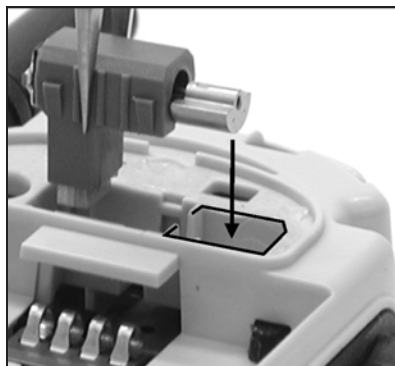
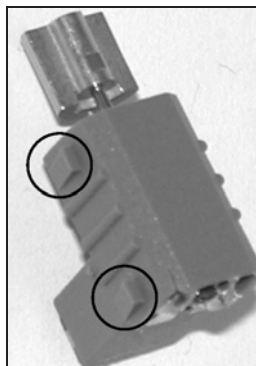

Figure 7-14.
Figure 7-15.
1. Position vibe assembly so the elastomeric connector is in place and inserted first into the vibe compartment. (See Figure 7-14.) Align vibe assembly counterweight with its compartment as it is pushed in place. (See Figure 7-15.)